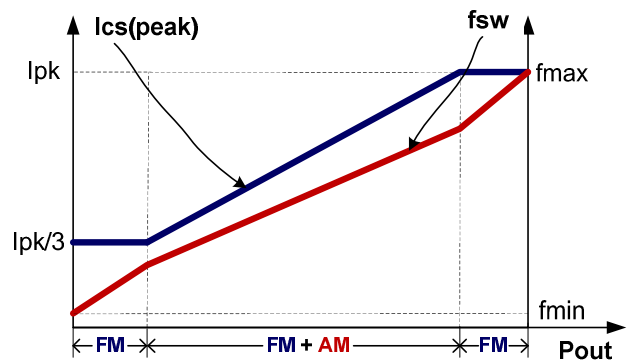

Fig.4
To meet the tight requirement of averaged system efficiency and no load power consumption, a hybrid of frequency modulation (FM) and amplitude modulation (AM) is adopted in DP25134 which is shown in the Fig 4.